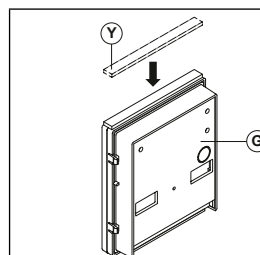
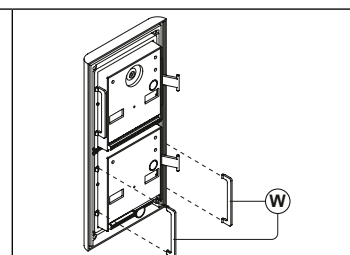

Fig. 5
Fig. 6
A varistor must be fitted across the terminals on AC lock release (**Fig. 5**) and a diode must be fitted across the terminals on a DC lock release (**Fig. 4**) to suppress back EMF voltages. Connect the components to the lock releases as shown in figures.
Apply the (Y) seal as shown in **Fig. 5**.
Fit the anti-tampering locks (W) as shown in **Fig. 6**.
- Before installation of the module support frame, hook the modules **(G)** to the support frame **(H)** as shown in **Fig. 5** then, as shown in **Fig. 6**, fit the two anti-tampering locks **(W)** for each module (do the same for the second module support frame);